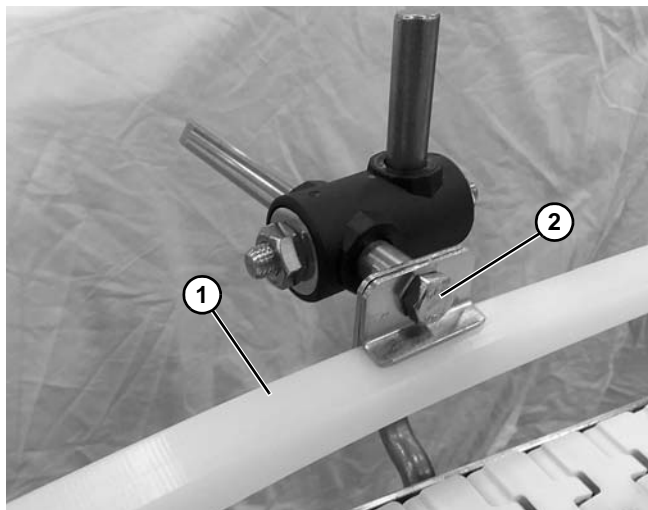

Figure 40
3. Install guide rail (**Figure 40, item 1**) into rail clamp. Tighten fastener to secure (**Figure 40, item 2**).